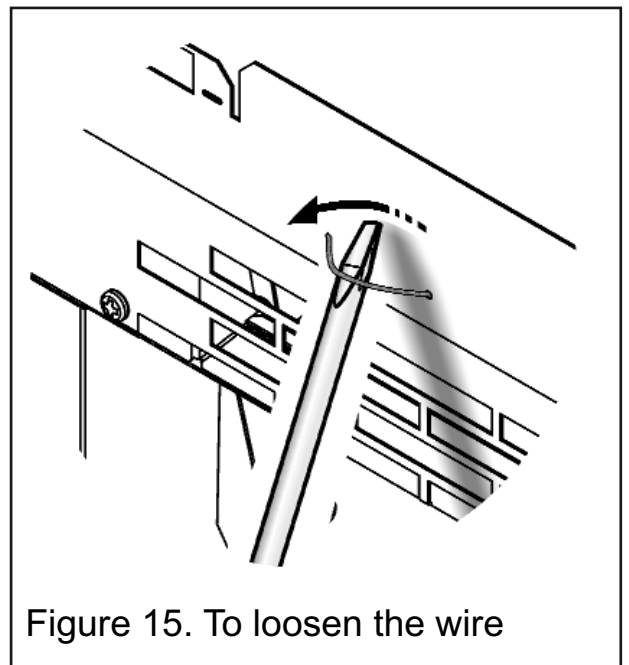

Figure 15. To loosen the wire
- If the heater is secured with screws then remove the screws. For heaters secured with wire it will be necessary to loosen and remove the wire at one side. Do this by pushing the wire loop towards the outer hole and pulling on the wire where it passes through an outer hole in the heater. It may be necessary to use a flat ended screw driver or similar tool behind the wire loop (See figure 15).